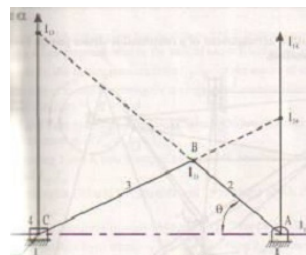

Fig. 2.7
- Locate all the instantaneous centers for the slider and crank mechanism shown in the fig.2.7